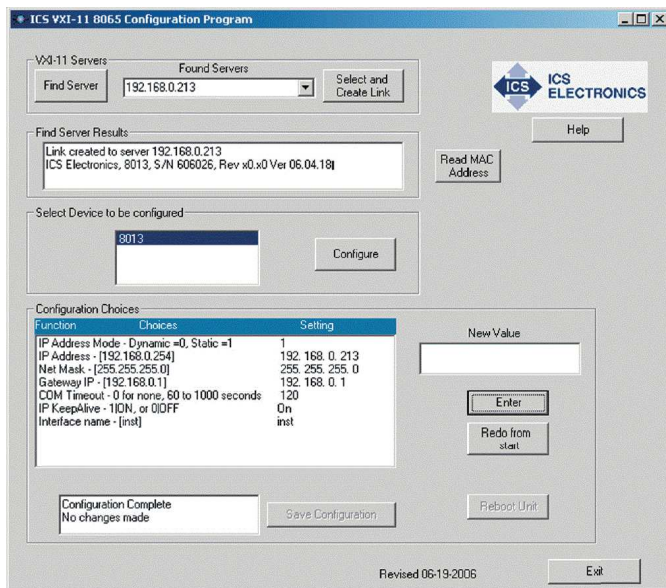

Figure 4-8 VXI-11 Configuration Utility
4. Run the VXI11_config program. The Configuration Utility opens a window as shown in Figure 4-8. Initially only the Find Server, Help and Exit keys are enabled on the program window. The other keys will be enabled as you advance through the program.
9. Repeat step 8 for each configuration parameter. Figure 4-8 shows the VXI-11 Configuration Utility after all parameters have been entered for a Model 9006. Click the Redo From Start key if you need to start over or if you want to change any of the prior settings